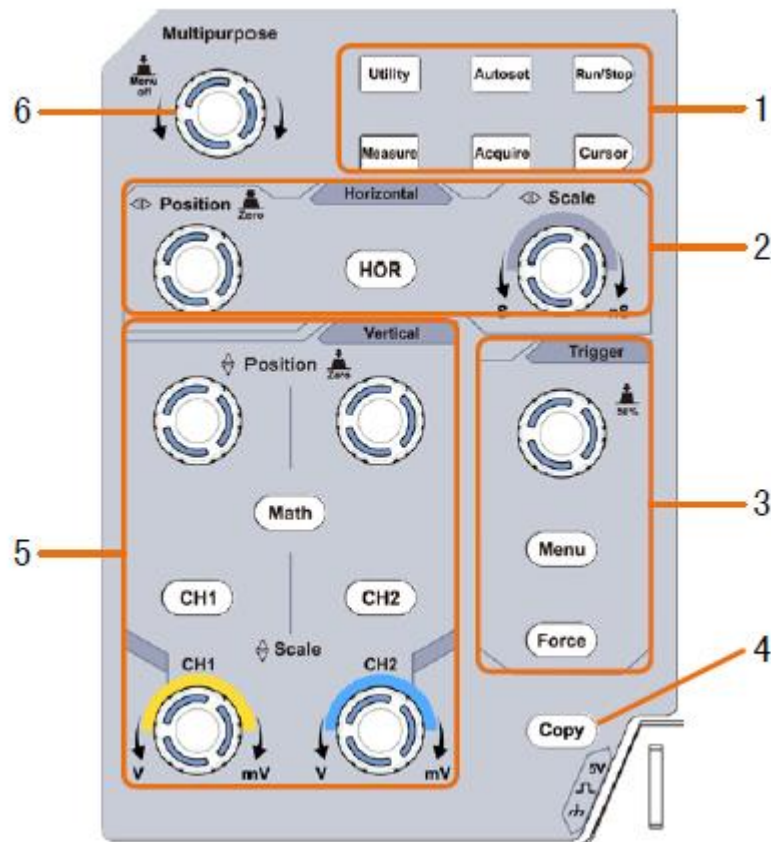
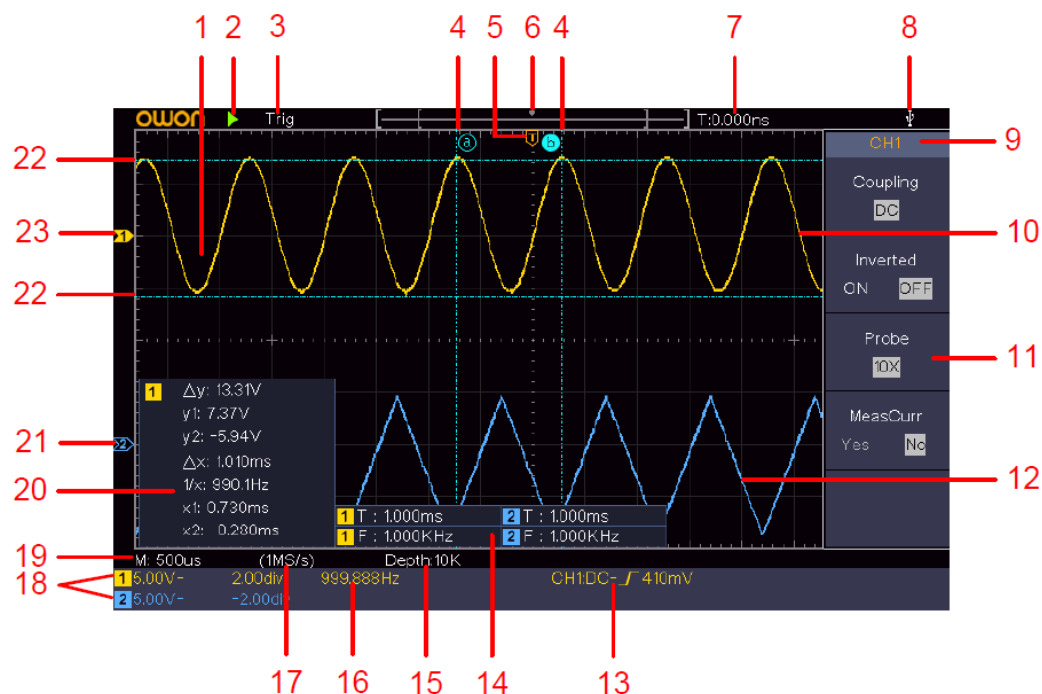

Figure App1: control area overview
Figure App2: Illustrative Drawing of Display Interfaces
With the **vertical controls** (area 5 in figure App1) you can set the attenuation or amplification of the signal. It consists of two channels. The volts-per-division setting (usually written as volts/div) is a scaling factor that varies the size of the waveform on the screen. Use the CH1 and CH2 dial to adjust the amplitude of the signal to the desired measurement range. The volts/div setting for the two channels can be read from '18' in figure App2. The vertical POSITION control allows you to move the waveform up and down exactly where you want it on the screen.
The seconds-per-division (sec/div) setting lets you select the rate at which the waveform is drawn across the screen. It is also known as the time base setting or sweep speed. This setting is a scale factor. If the setting is 1ms, each horizontal division represents 1ms. Changing the sec/div setting enables you to look at longer and shorter time intervals of the input signal. It can be changed with the 'horizontal scale' dial, located in area 2 as indicated in figure App1. The sec/div setting for the two channels can be read from '19' in figure App2.
- 2) **Cursors** allow you to perform more accurate measurements of voltages and times. Press the CURSOR button (located in area 1, indicated in figure App1) to show the cursor measurement function menu on the oscilloscope display. To switch between time and voltage cursors, change the settings by pressing the first two button in area 2, as indicated in figure App1. The current position of the cursors is shown in the 'cursor measure window', indicated by 20 in figure App2. The cursor position can be adjusted with the 'Multipurpose' dial, indicated by '6' in figure App1. By pressing the fourth button in area 2, you can change the distance between the cursors. By pressing the fifth button in area 2, you can switch between CH1 and CH2.